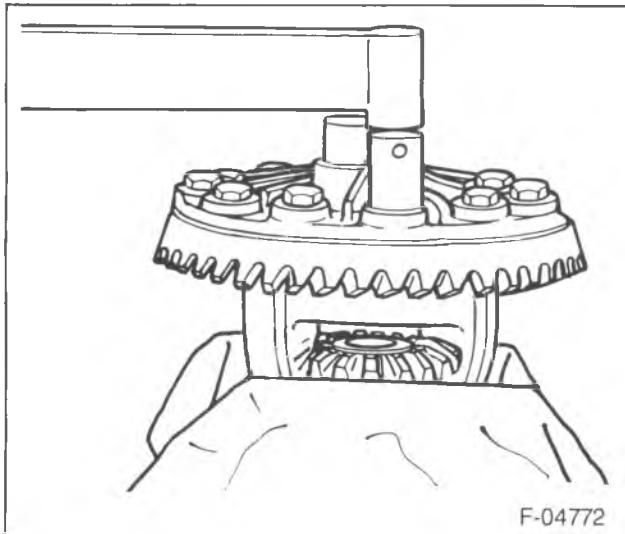

Figure 20—Installing the Ring Gear Bolts
- Ring gear (2) to the differential case (22).
- New ring gear bolts (23) (figure 20).